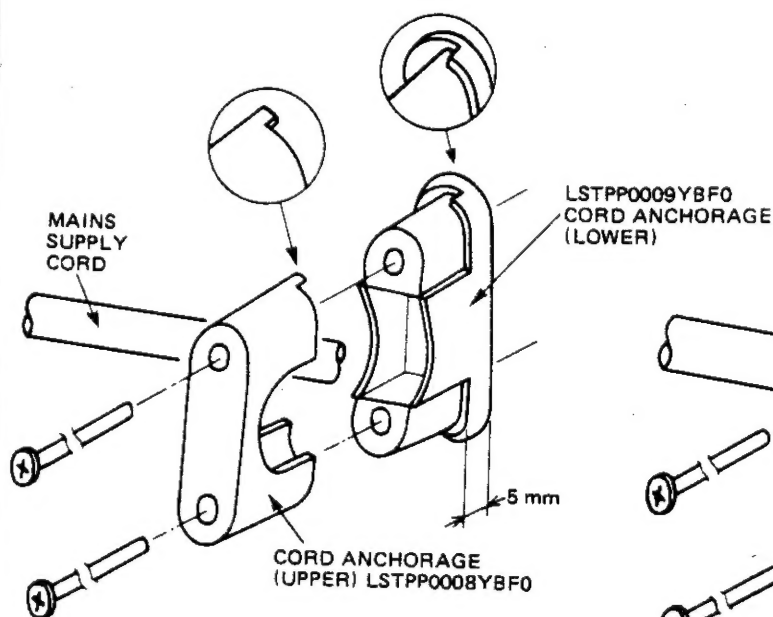

Figure 1. Correct Fixing
3. Therefore, make sure to fix them as shown in figure 1.